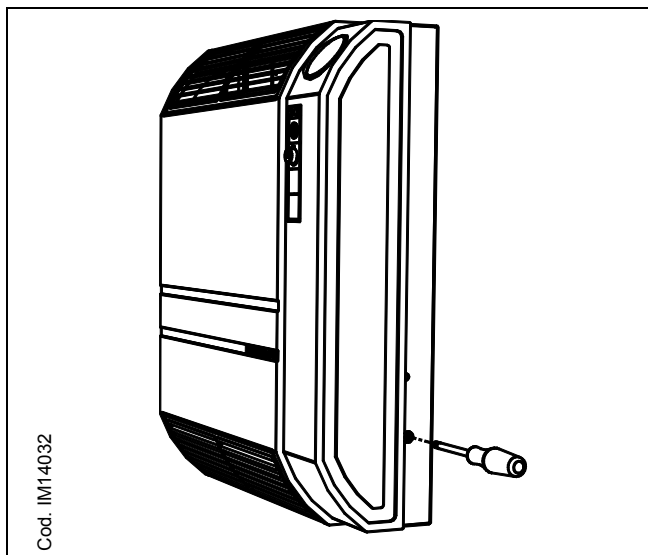
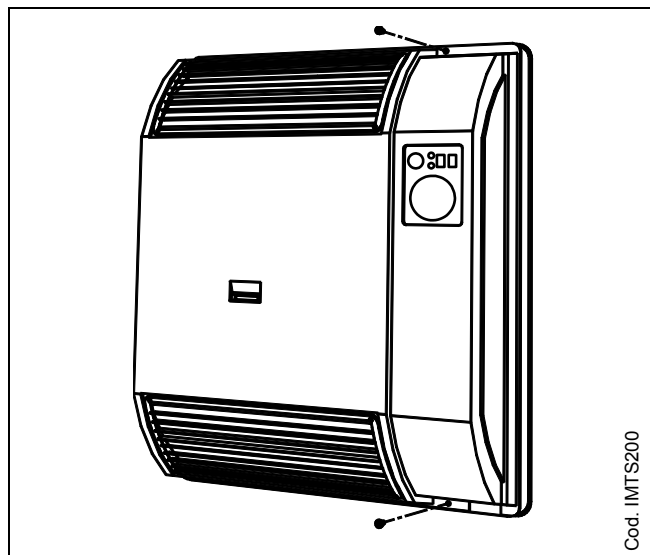

Figure 10 – FIXING SCREWS FOR EXTERNAL CASING 4001, 4002, 5001 AND 5002 MODELS
Figure 11 – FIXING SCREWS FOR EXTERNAL CASING- 3001 AND 3002 MODELS
7. Remove the casing from the internal heating body frame unloosing the fixing screws (see Figure 10 and Figure 11) and disconnect the shell earthing cable.
20. Connect the earth cable and relocate the casing on the unit frame (see Figure 10 or Figure 11).
To regulate the unit, remove the casing (Figure 10 and Figure 11), check the fuel supply (natural gas) and proceed as follows: